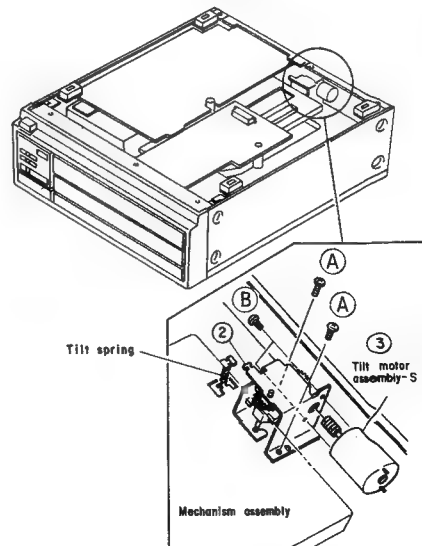

Fig. 7-15
7.11 HOW TO REMOVE THE TILT MOTOR (Fig. 7-15)